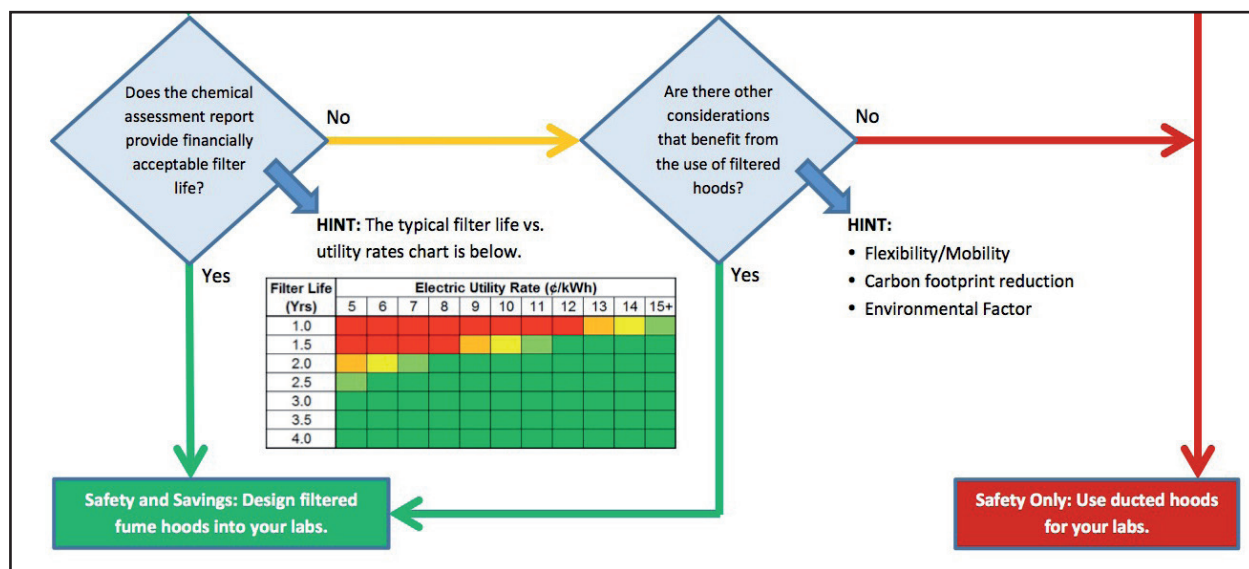

Figure 6: Step 4 - Confirmation of Safety and Savings
4) The last step is confirming all previous assumptions are correct (see Figure 6):